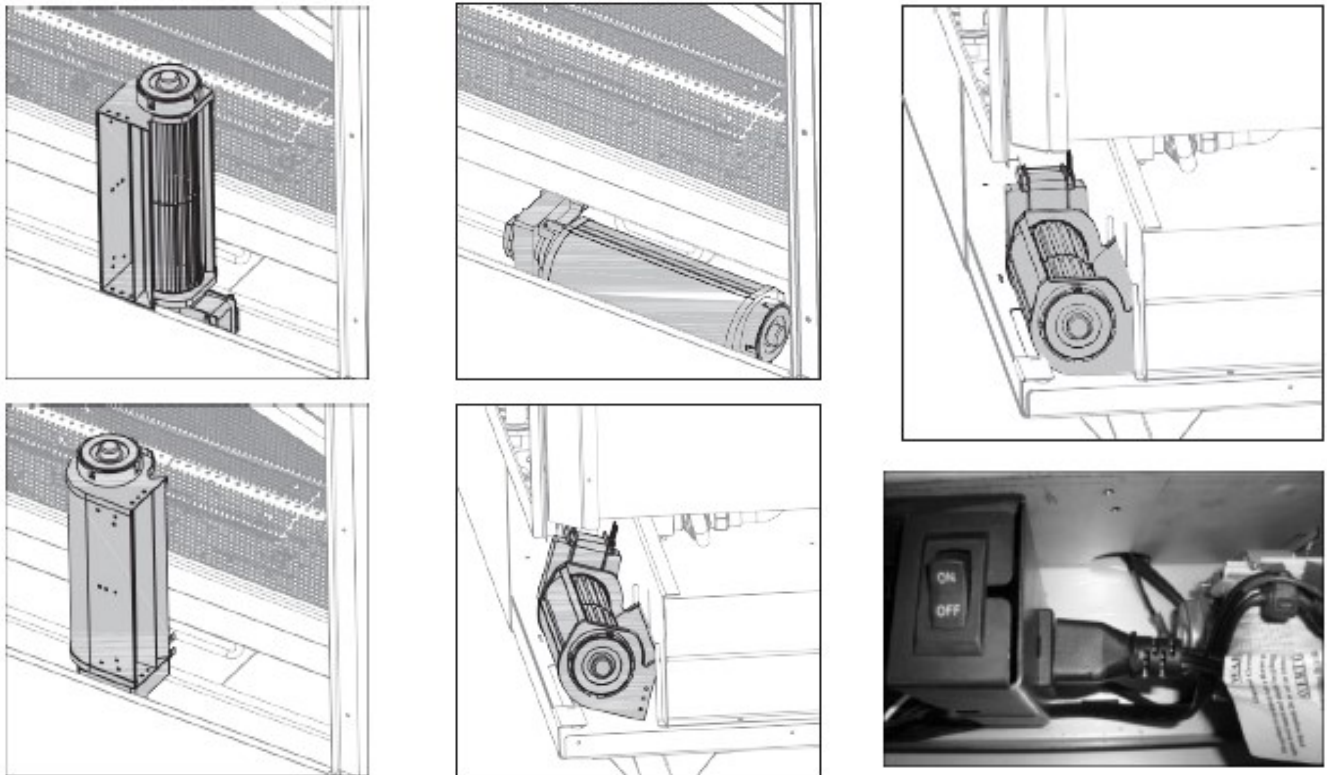

Figure 10.5 - Fan Kit Installation
6. Position the fan as shown in Figure 10.5. As you rotate the fan towards you, the upper edge of the fan discharge will lock behind the top edge of fireplace air channel opening, securing fan into place. **DO NOT LET THE FAN REST ON ANY ELECTRICAL CORDS.**